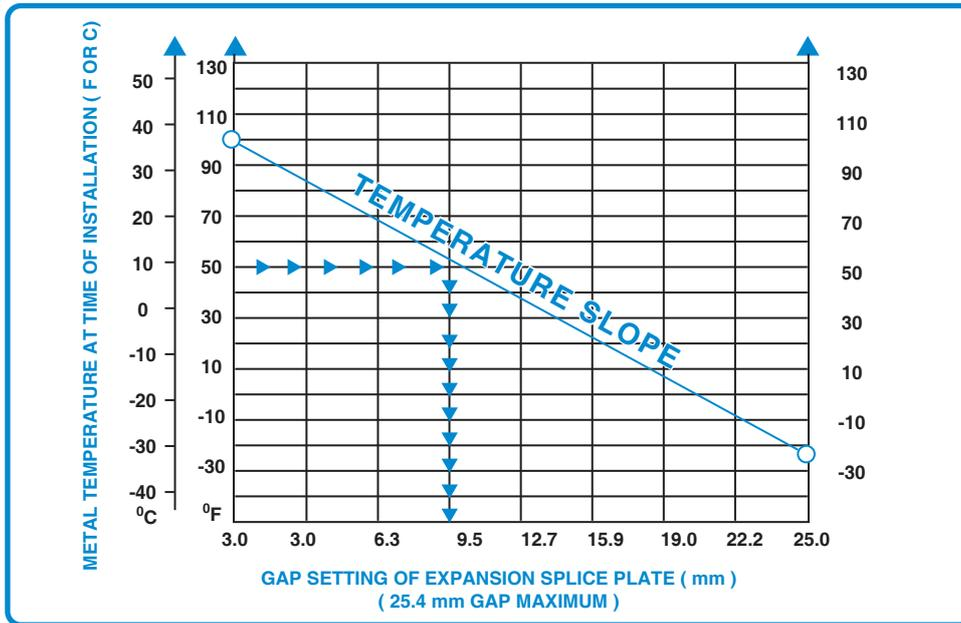

Figure 2
- ★ The following procedure should be adopted to determine the correct gap with reference to Figure 2.